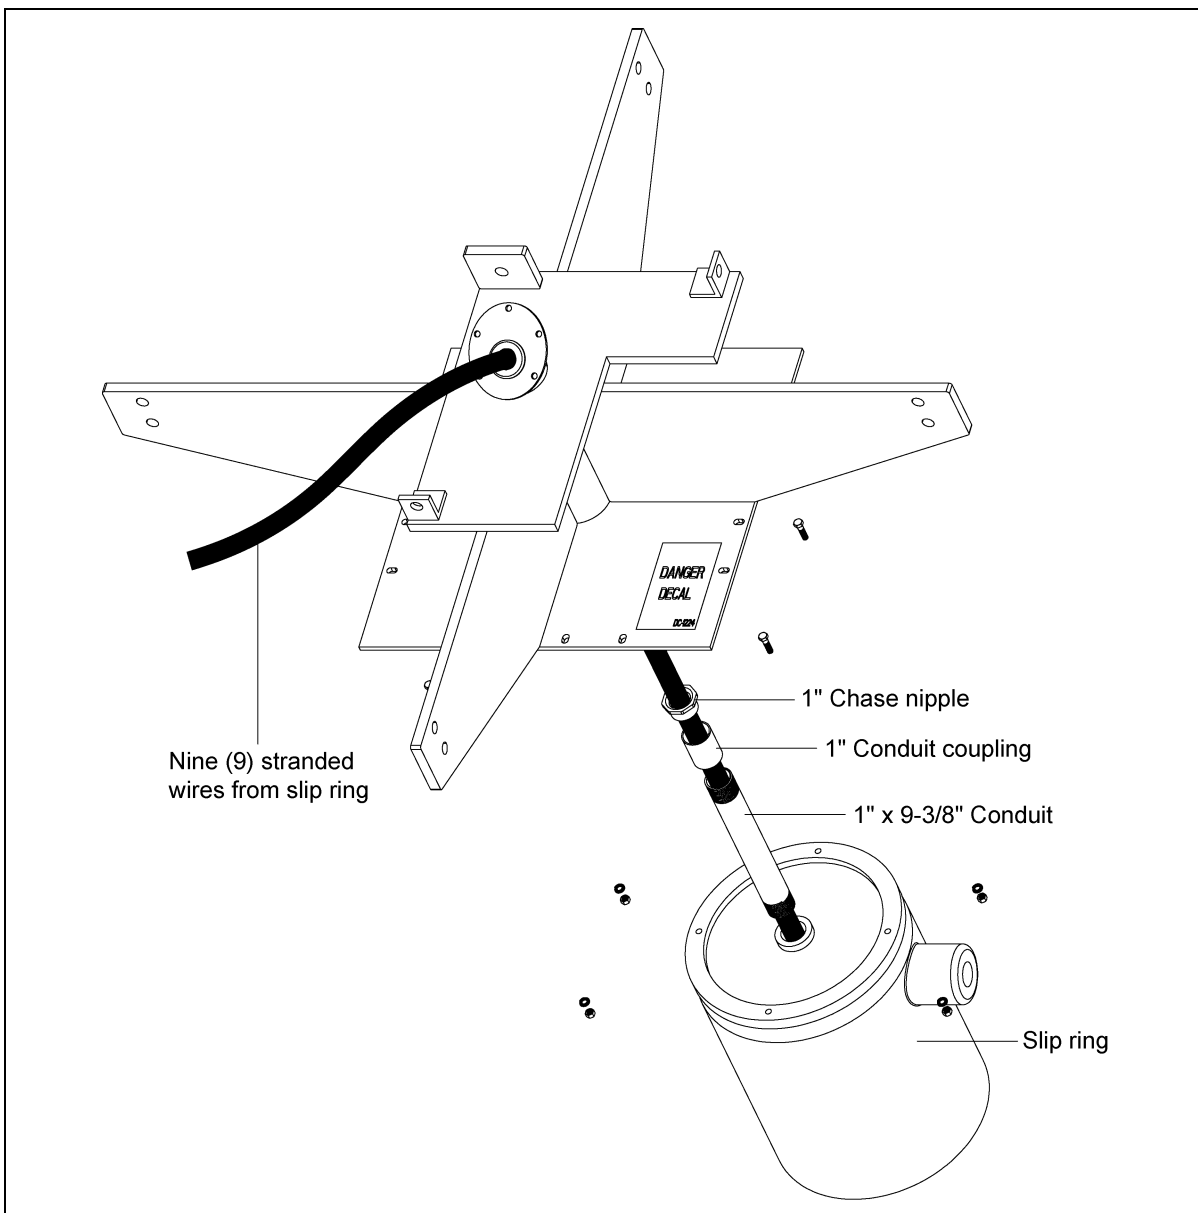

Figure 4C
3. Once the assembly is aligned properly, attach the cross brace to the sump with four (4) 1/2" x 1-3/4" hex bolts and nuts. Do not tighten these at this point.
8. Feed the nine (9) stranded wires from the slip ring through the conduit assembly and fasten it to the slip ring. (See Figure 4C.)